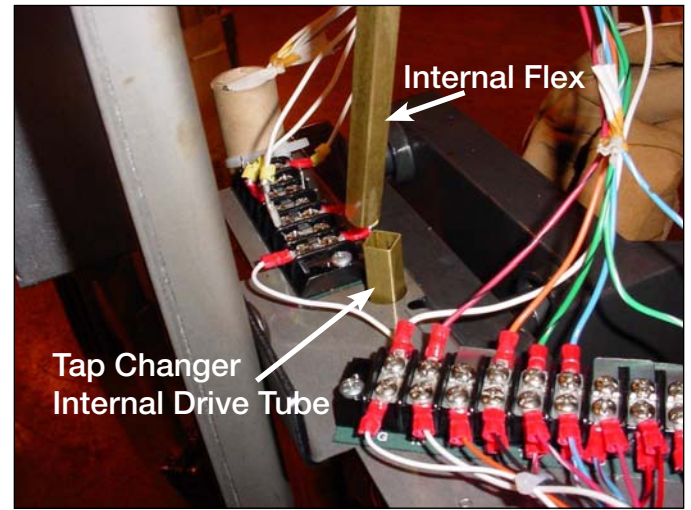

Figure 3.
1. Remove the internal position indicator shaft from the tap changer indicator drive tube. See Figure 3.